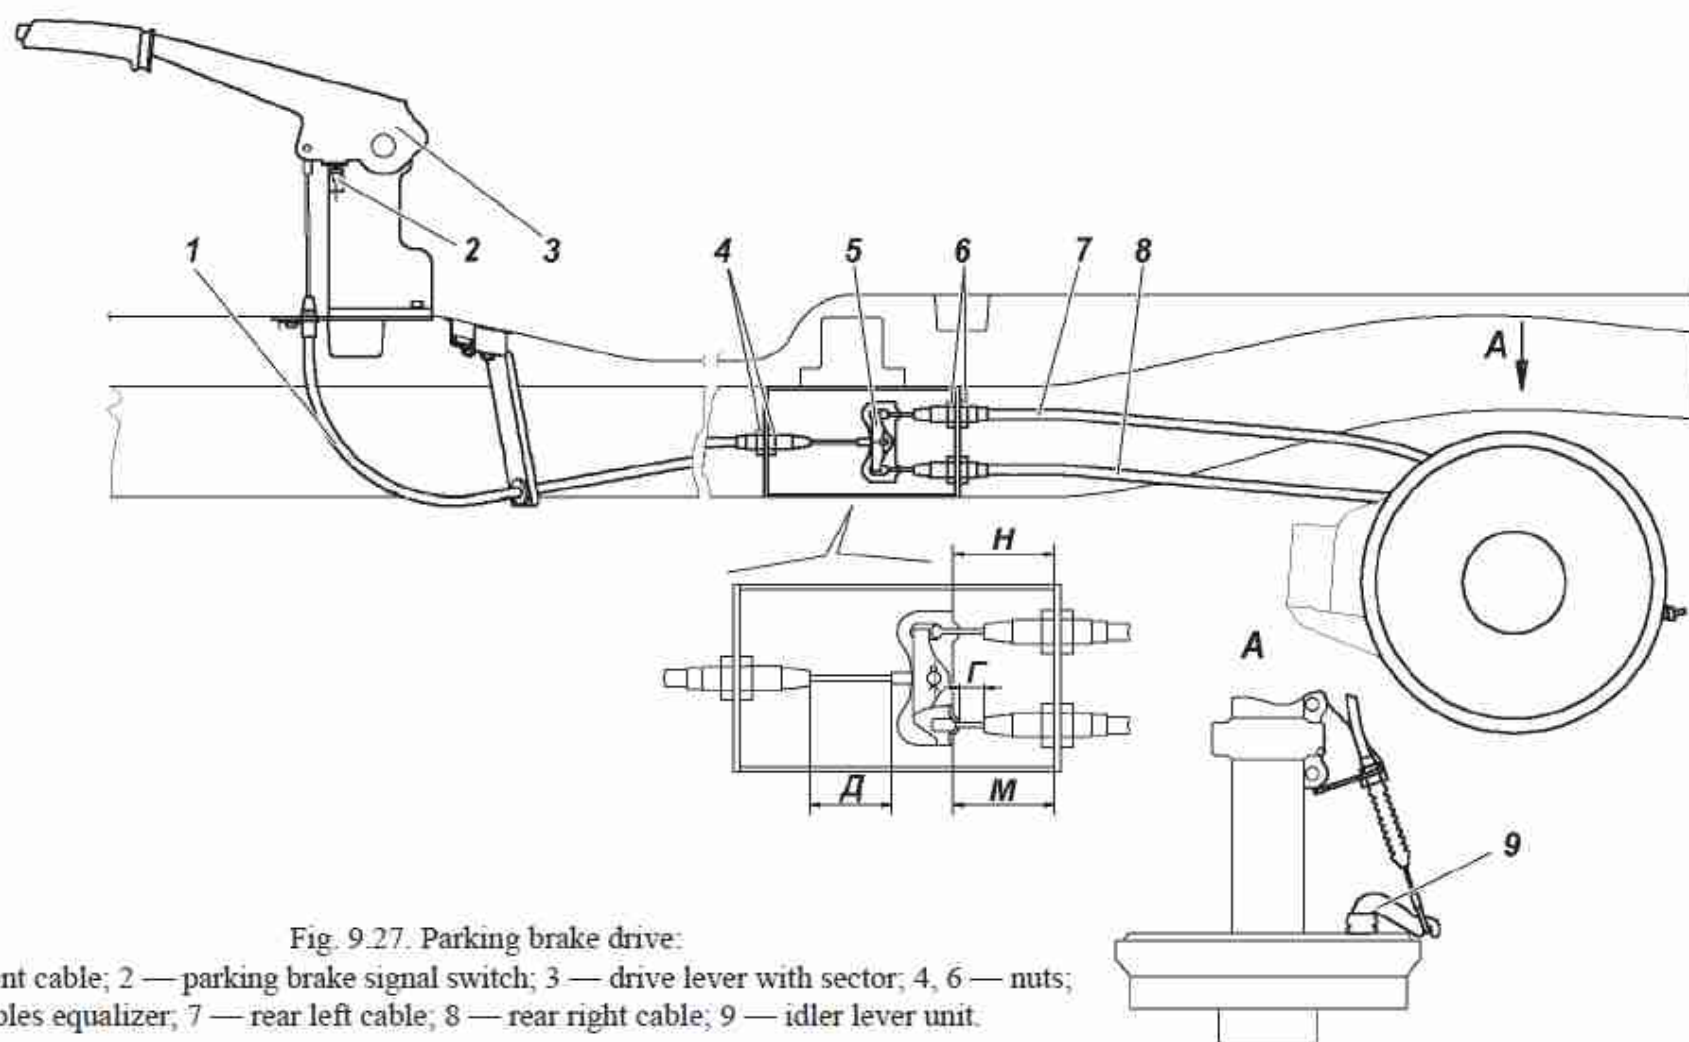

Fig. 9.27. Parking brake drive:
Wheel parking brake, affecting the brake shoes of rear wheels (Fig. 9.27).
3. Set the parking brake lever 3 in the lower position (Fig. 9.27).